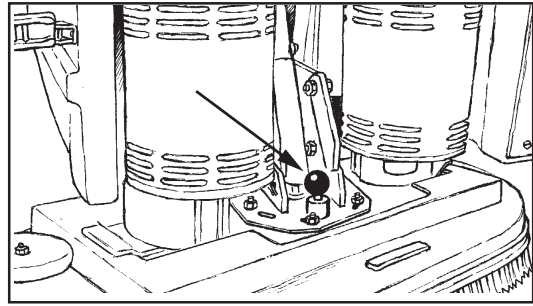

Figure 16
- Raise plunger pin and rotate brush head. See figure 16.